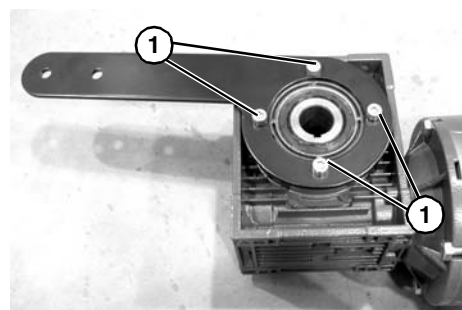

Figure 15
2. If required, change gearmotor position by removing four (4) screws (**Figure 15, item 1**). Rotate gearmotor mounting plate to other position and replace screws (AL). Tighten to 200 in-lb (22.5 Nm).